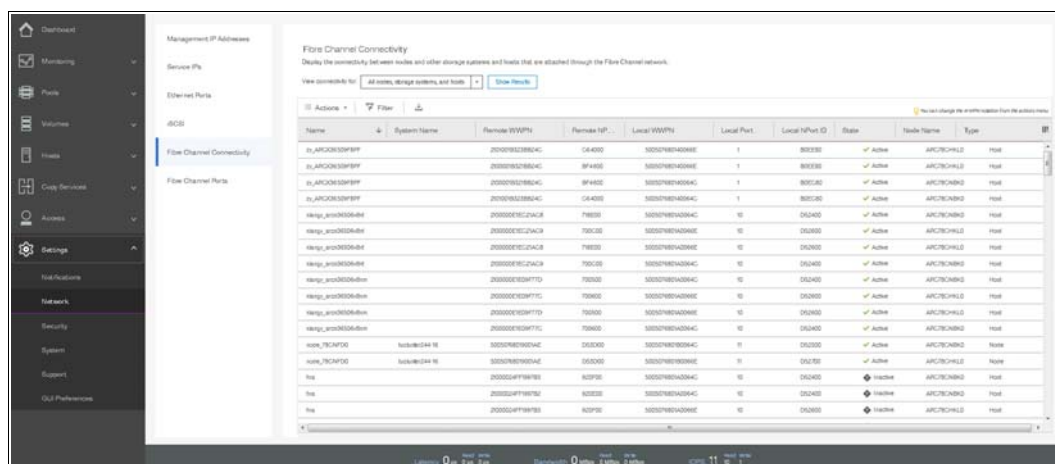

Figure 5-54 Viewing FC connections between nodes, storage systems, and hosts
- You can view connections between nodes, storage systems, and hosts by selecting **Fibre Channel Connectivity** while you are in the Network settings view. Choose the connections that you want to view and click **Show Results**, as shown in Figure 5-54.